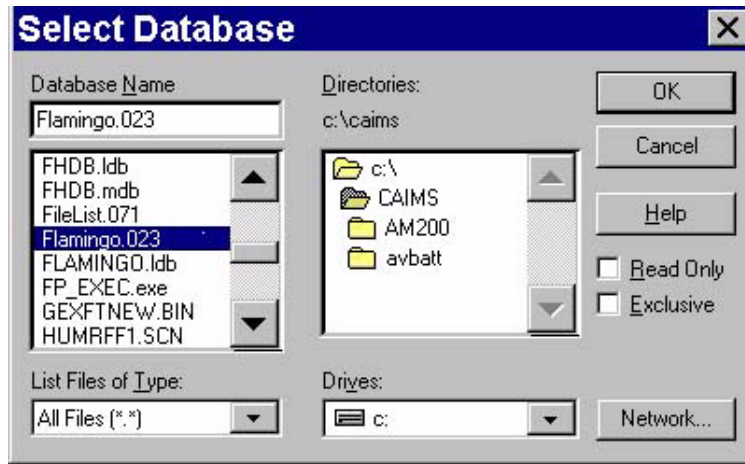

Figure 4
- And look for "Flamingo.023" under the "c:\CAIMS" folder. See Figure 4 below.